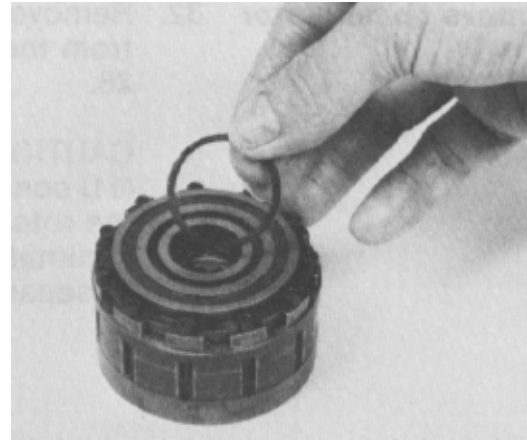

Figure 62
26. Remove and discard the commutator seal from the commutator cover (Fig. 62).